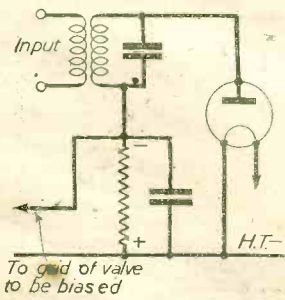

Fig. 52.—Diode biasing.
(6) The use of a diode as a rectifier to produce a steady biasing voltage is shown in Fig. 52. This type of biasing is used extensively in modern sets for automatic volume control (A.V.C.).